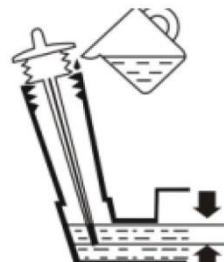

Figure 10
3. The oil level shall be between the marks "HIGH" and "LOW". See Figure 10.
4. If necessary fill with oil up to the FULL mark. See Figure 10.